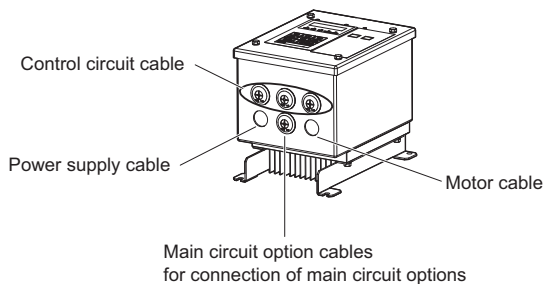

Figure 8 Conduit Openings
3. Remove the rubber bushing covering the conduit openings at the bottom of the drive. Review Figure 8 to route the main circuit and control circuit cables through the proper conduit openings.